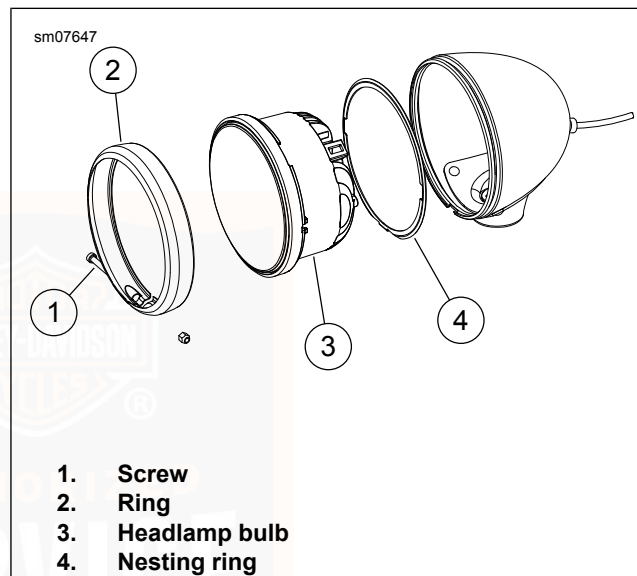

Figure 98. Headlamp Assembly
1. See Figure 98. Remove screw (1). Remove trim ring (2) from lamp housing.
1. See Figure 98. Place nesting ring (4) on back of **new** bulb (3) with the index tab facing away from bulb.